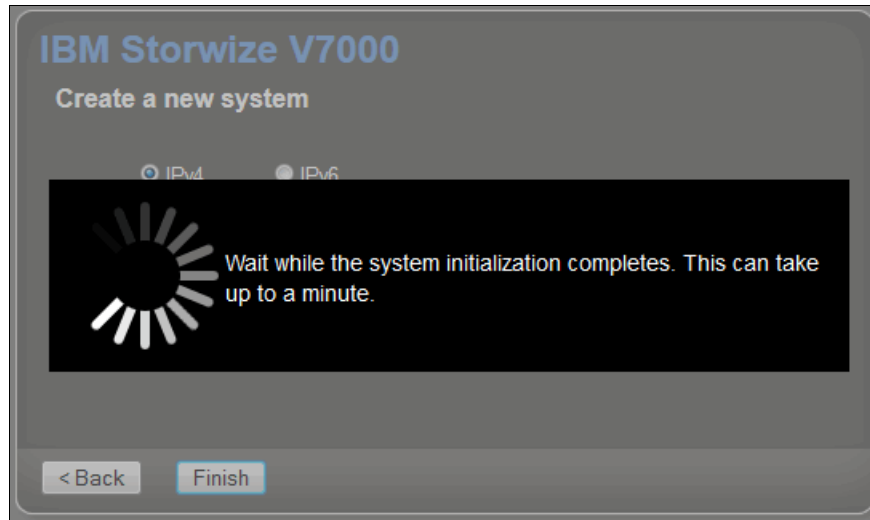

Figure 5-6 Initialization of the System
6. Click **Finish** when you have entered the IP Address, Subnet Mask, and Gateway. The system starts to initialize the system (node), and you see a window, such as the one in Figure 5-6.